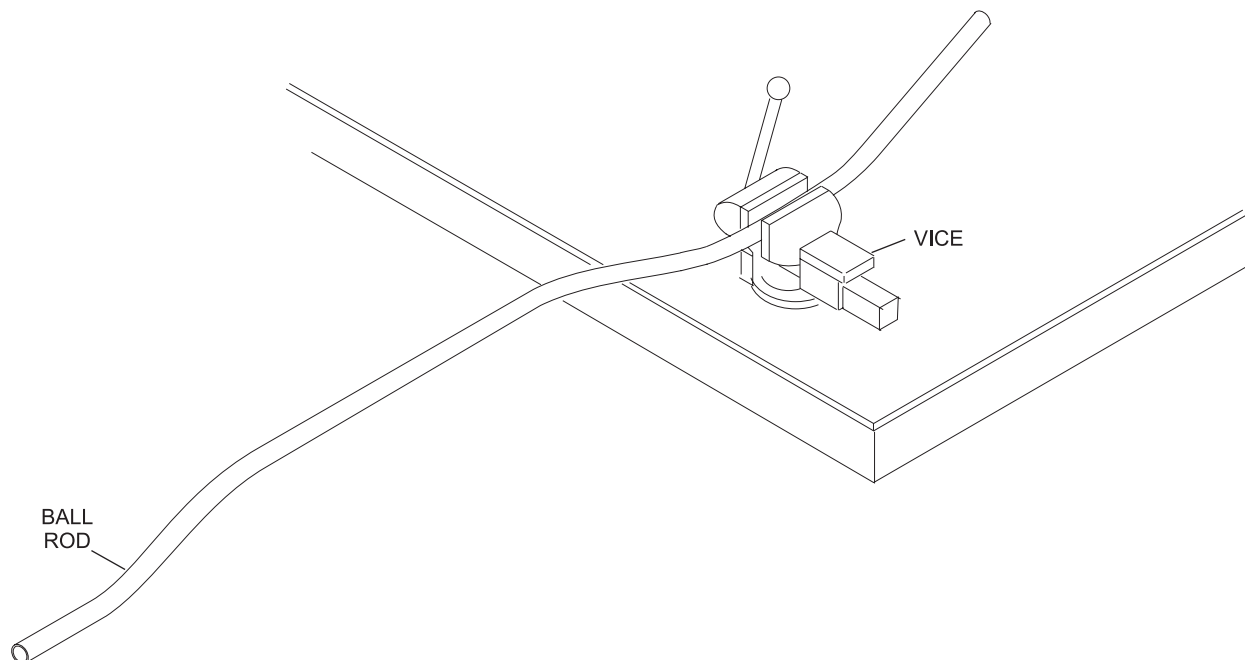

Figure 1
1. Remove ball rods from accelerator frame and secure in vice. Refer to *Figure 1*.